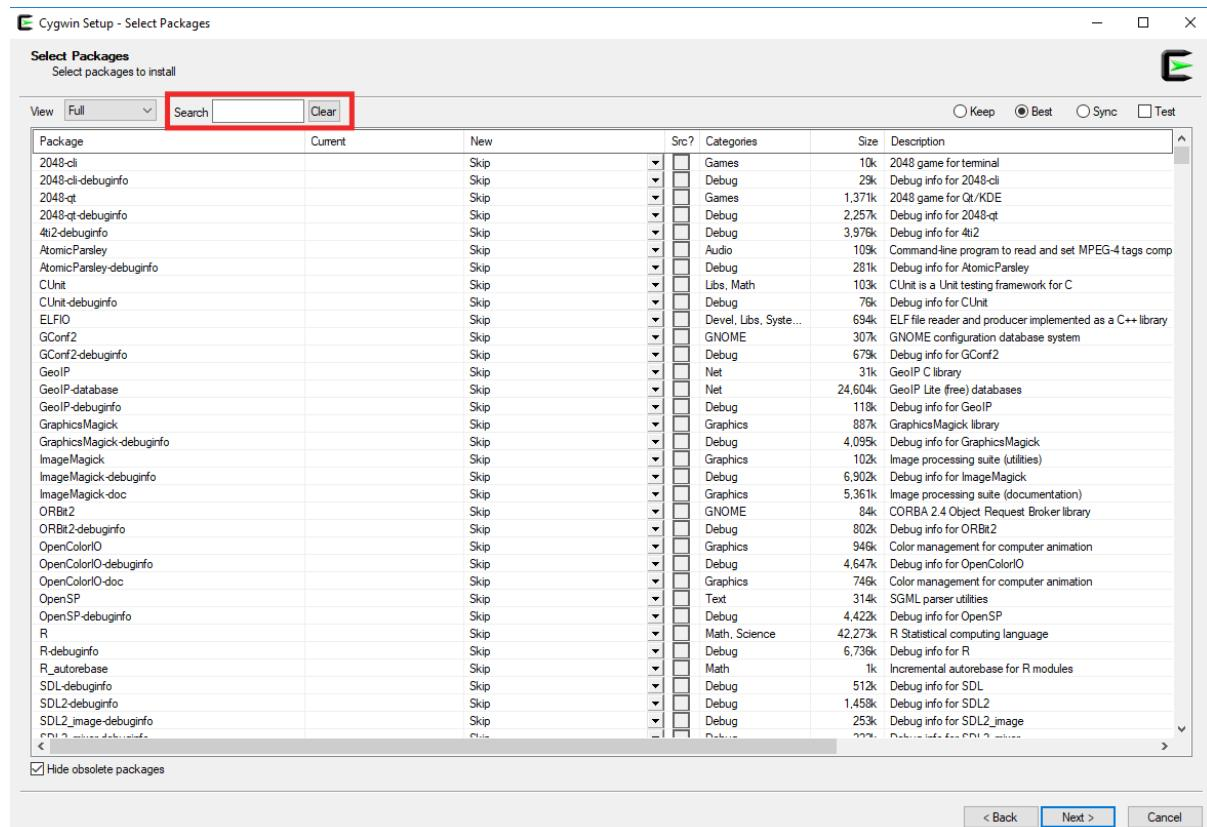

Figure 105. Select Packages window – Full view
4. The complete list of packages that you can install will appear (Figure 105). In the **Search** box, select the specific packages that you want to install.